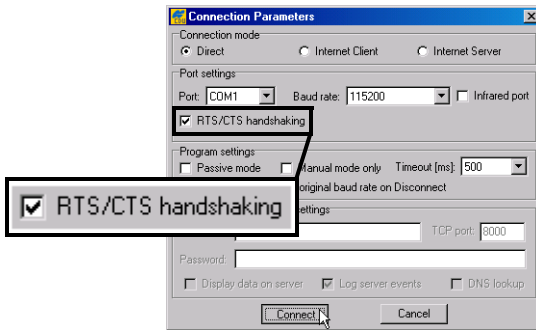

Figure 4-2. Connection Parameters – RTS/CTS Handshaking
- On the **Connection Parameters** dialog box, enable *RTS/CTS handshaking* and click **Connect** (Figure 4-2).